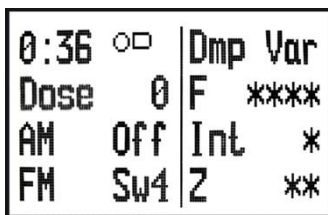

Fig.26
- ♦ Swing 1 combined modulation mode (**FM Sw1**). The mode is indicated by a low pitch beep. At the same time the **device forcibly sets the following parameters: Dmp, Int, Gap, F**. After you activate the **Sw1** mode, you can change the settings of the **Dmp** parameter. The settings that cannot be changed are marked with asterisk on the screen (Fig.26);